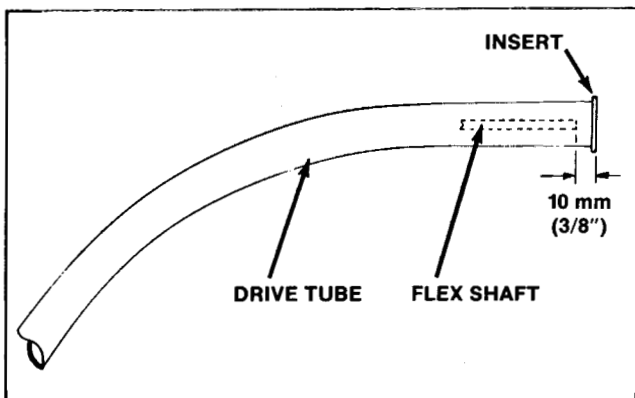

Figure 6
5. Insert the flexible shaft into the nylon sleeve. Make sure that the shaft seats properly in the clutch drum. Proper seating is obtained when the flexible shaft is 10 mm (3/8 inch) inside the drive tube. See Fig. 6